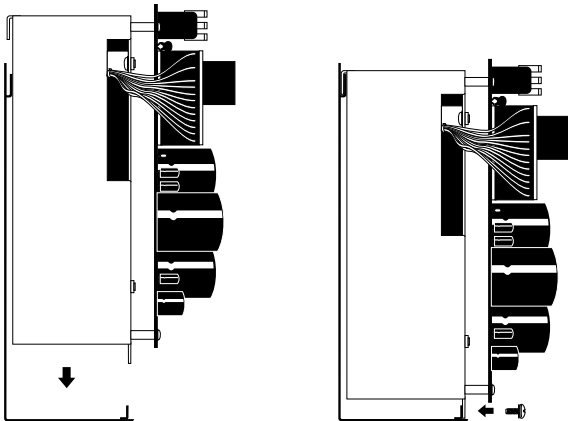

FIGURE 3-3: INSTALL THE MAIN POWER SUPPLY
- Main Power Supply** - Mount the main power supply to the cabinet as illustrated in Figure 3-3. *Do not wire anything at this time!*